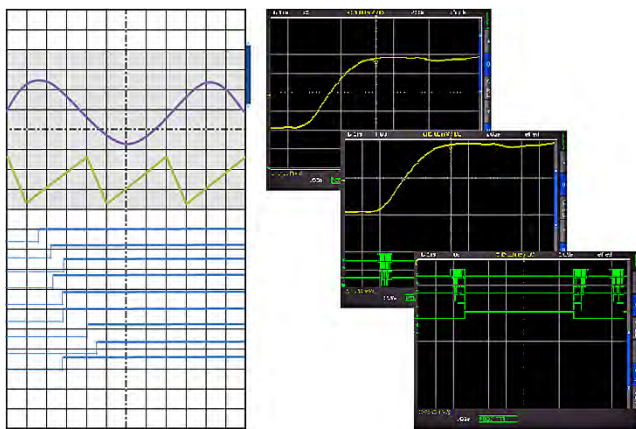

Fig. 7.1: Drawing of the virtual screen area and an example
Fig. 7.1 illustrates the functionality of the virtual screen. The display includes a section of 8 vertical divisions in gray. This section enables you to display analog signals. The small bar next to the graticule indicates the position of the 8 visible divisions within the available 20 divisions. By pressing the SCROLL BAR (5) the bar will be activated and displayed in blue and you can use the universal knob to shift the 8 visible divisions (gray section) within the available 20 divisions. This allows a simple and clear display of many individual signal portions.